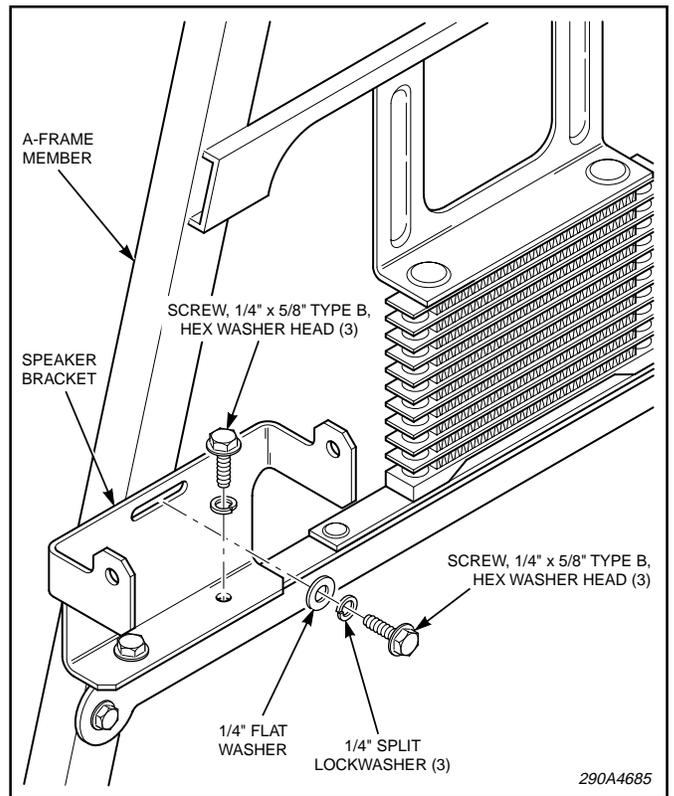

Figure 2.
3. See figure 2. Locate the A-frame member. Place the bracket on A-frame as shown.
4. Using the speaker bracket as a template, scribe three (3) drill position marks on the A-frame member.